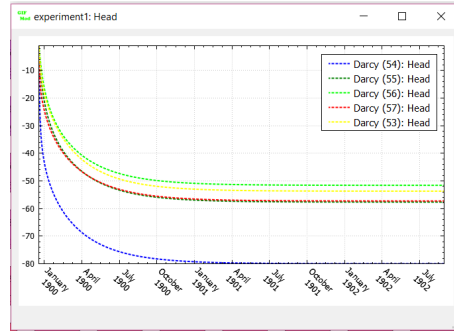

Figure 4: Hydraulic head in select blocks
- Right-click on a block of your choice and select **Plot Hydraulic Results**→**Plot Storage** from the drop-down menu that appears. You may copy and paste the results on one graph to another one for comparison. For example figure 4 shows the storage in blocks *Darcy (53)* to *Darcy (57)*. As it can be seen the drop in the hydraulic head at the wells are quite significant. This is due to the high pumping rates relative to the hydraulic conductivities of the aquifer.